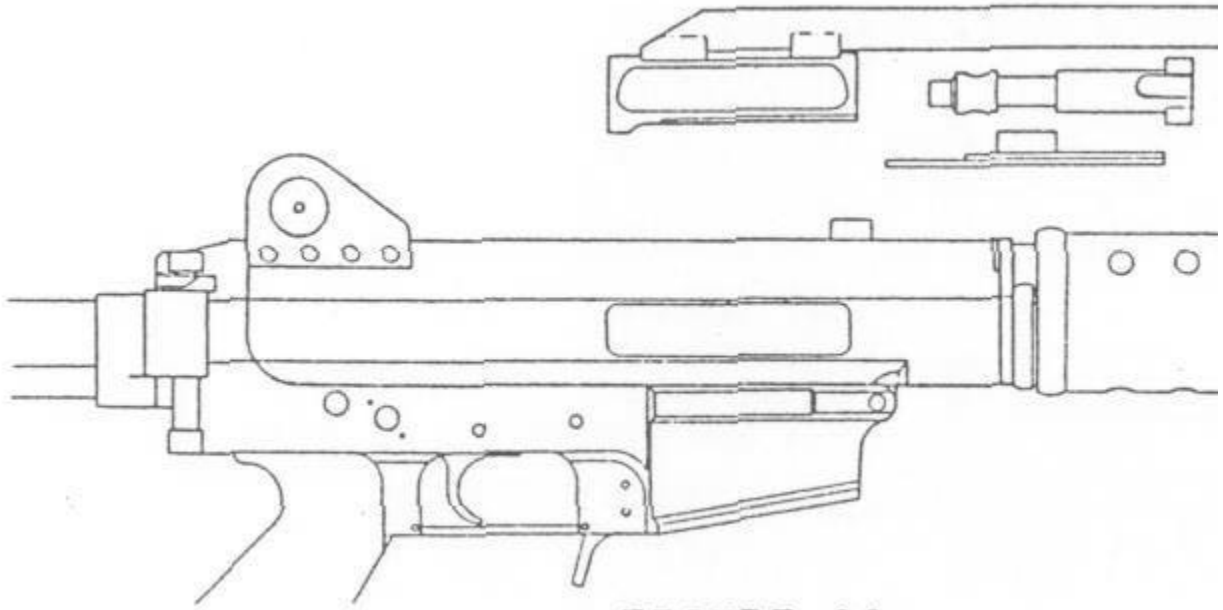

FIGURE 23
18. When reinstalling the bolt into the bolt carrier, be sure that the bolt follower is correctly installed in the groove in the bolt and in the slot in the bolt carrier. (See Figure 23).
19. When reinstalling the bolt into the bolt carrier, be sure that the extractor is on the same side of the bolt carrier as the ejection port of the rifle. (See Figure 23).